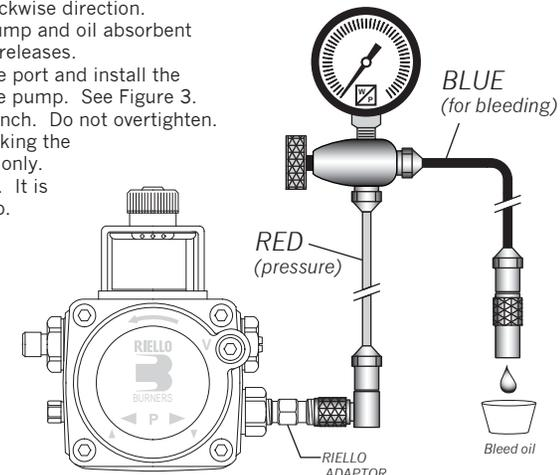

Figure 4.
5. Connect the tester as shown in Figure 4. making the connection to the Riello adaptor finger tight only.